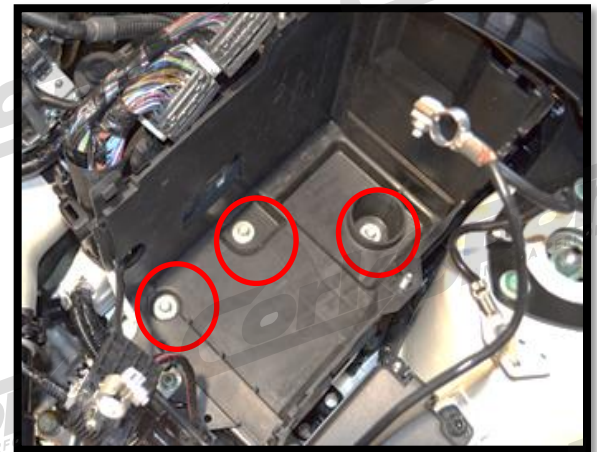

Figure 3d
- i) Remove the battery box. Remove the 10mm bolts in the bottom of the box and remove the battery box and ECU (red circles in Figure 3d).
i) **Remove the battery box.** Remove the three 10mm bolts in the bottom of the box and remove the battery box and ECU (red circles in Figure 3d).
- i) Replace the battery box. Tighten the three 10mm bolts in the bottom of the box (red circles in Figure 3d).